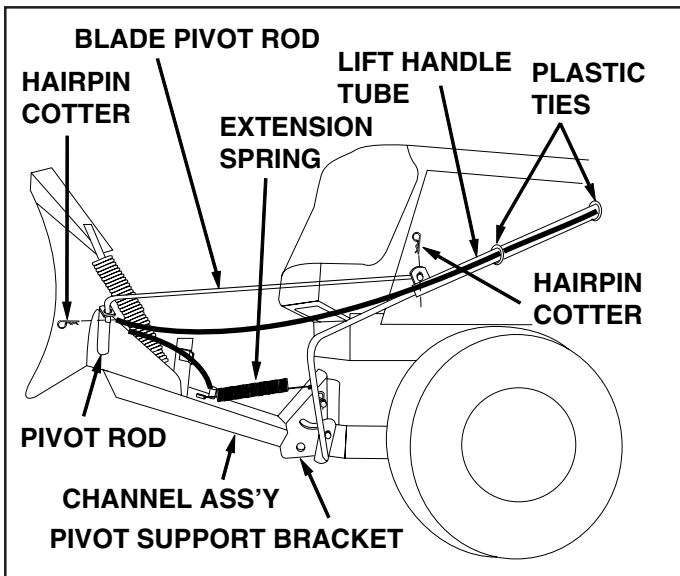

FIGURE 20
- Attach the long end of the extension spring to the upper hole in the pivot support bracket and the short end to the center slot in the channel as shown in figure 20.
- Attach the long end of the blade pivot rod down through the blade pivot shaft and the short end of the blade pivot rod to the lift handle tube. Secure both ends with a hairpin cotter pushed through to loop end. See figure 20.
- Use the two plastic ties to hold the cable securely to the outside of the handle tube and away from the tractor to avoid direct heat from the tractor muffler. See figure 20.
- Refer to figure 20 on page 10.